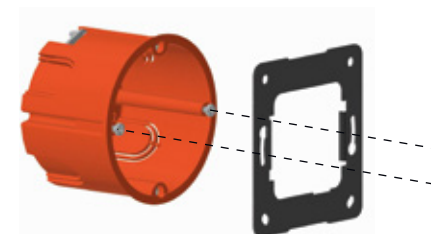
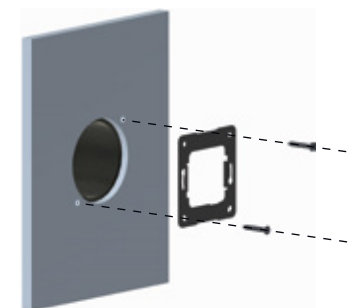

Figure 1: Hollow Wall Box Installation
Figure 2 : Wall Installation
- Assembly mounting frame (13) as shown in Figure 1 / Figure 2.
- Connect KNX bus cable to device (9).
- Optional: Connect external input cables to device (12).